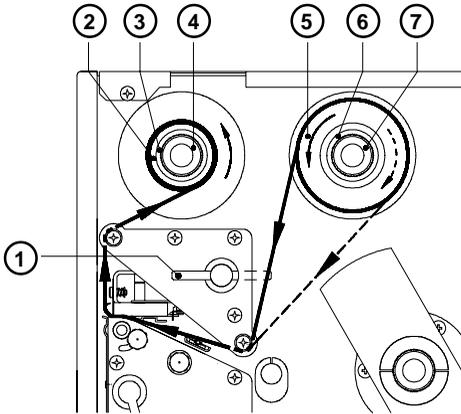

Figure 6b Loading Transfer Ribbon
4. Turn the knurled knob (7) until offering resistance and so jam fast the transfer ribbon (5) at the ribbon supply hub (6).
5. Slide an empty cardboard core (2) onto the ribbon take up hub (3) and jam fast it by turning the knurled knob (4).
6. From the side, feed the transfer ribbon along the path as shown in Figure 6b, then attach it to the core (2) using adhesive tape or a label.
7. Turn take up counter-clockwise hub (3) in order to smooth and stretch the ribbon.
8. To lock the printhead, turn the lever (1) back counter-clockwise.